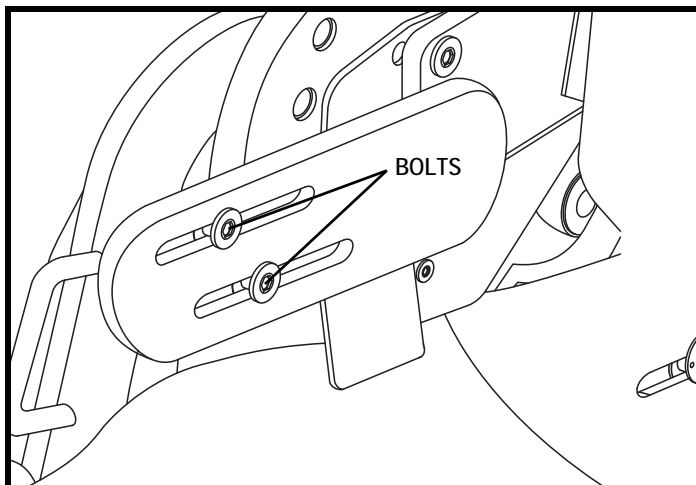

Figure 35. Kids ROCK 2 and ROCK 3 Lateral Plate Adjustment
1. The position of the lateral support plate can be adjusted using a 5/32-in. hex driver. See **figure 35**.